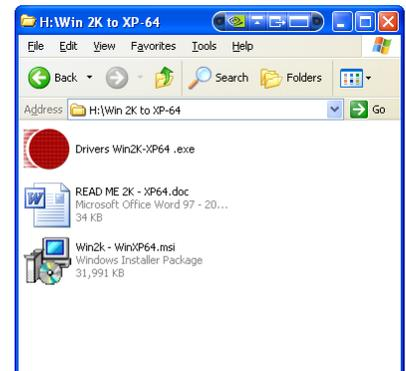

Figure 3. MIDG Software and Utilities CD-ROM folder containing SLC2JUSB Drivers.
1. **On the MIDG Software and Utilities CD-ROM, Select the driver file from the same folder from which the MIDG Software and utilities was selected. (Figure 3).** This is the appropriate drivers for the software installation.